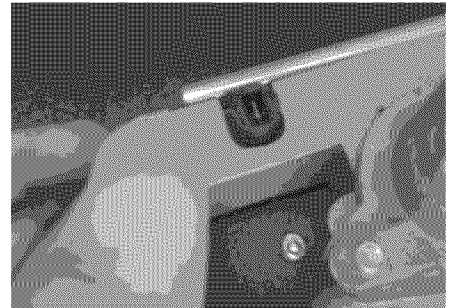
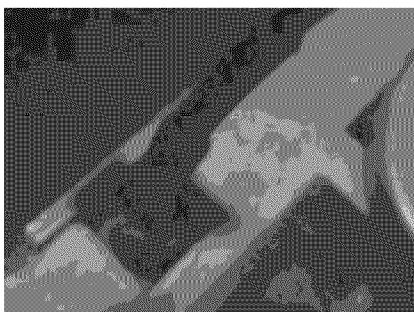
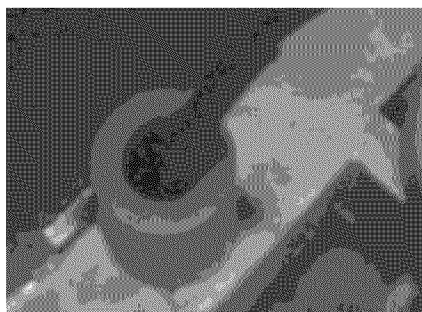

Fig. 11l
Fig. 11m
Fig. 11n
10. Insert the small tip of the side burner wire into the socket of side burner valve as shown in **Fig. 11l** and **Fig. 11m**. Secure by pressing on with white cap as shown in **Fig. 11n**. Also please note **Fig. 11l**, **Fig. 11m**, and **Fig. 11n**; these three views are of the underside of the right side shelf, looking towards the front of the grill from the rear.